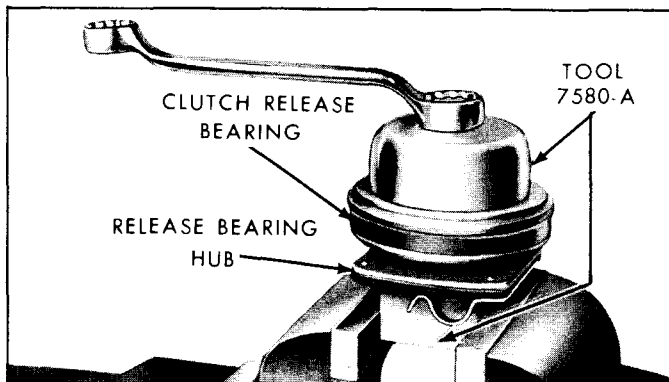

Fig. 7C-4—Release Bearing Installation—(60C-3204)
1. Wipe all oil and dirt from the bearing. Hold the inner race stationary and rotate the outer race. If any bind or noise is noted, press the hub out of the bearing. Assemble a new bearing on the hub with the tool shown in figure 7C-4.